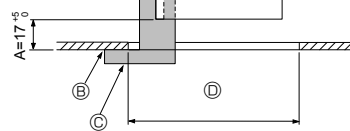

Fig. 3-7
- Make sure that A is performed within 17-22 mm. Damage could result by failing to adhere to this range. (Fig. 3-7)